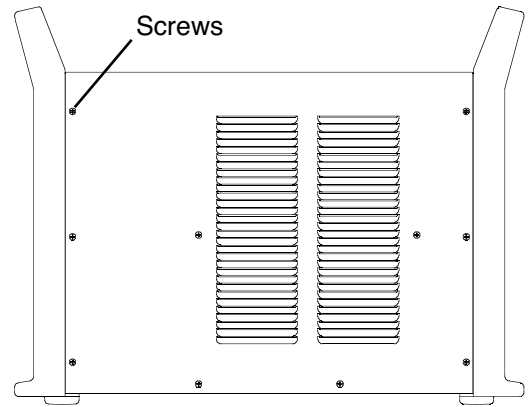

Figure 1 Cover Removal
2. Remove the screws that secure the cover to the chassis – Fig. 1.